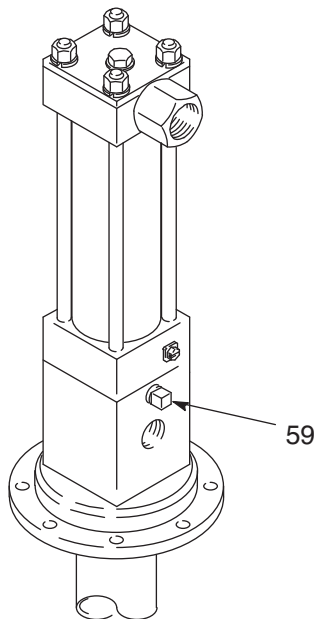

FIG. 3
- Drain Line: Remove the plug (59) from the pump adapter, and install a 1/8 diameter weep tube (B), ending in a waste container. Monitor the weepage of hydraulic fluid. If it seems excessive or increases suddenly, the reciprocator/pump seals may need to be changed. (FIG. 3)
- Fluid-filled pressure gauge (M): Monitors hydraulic pressure to the reciprocator during start up. Use the gauge for initial adjustment of the reciprocator. It can be removed after adjustment is made.